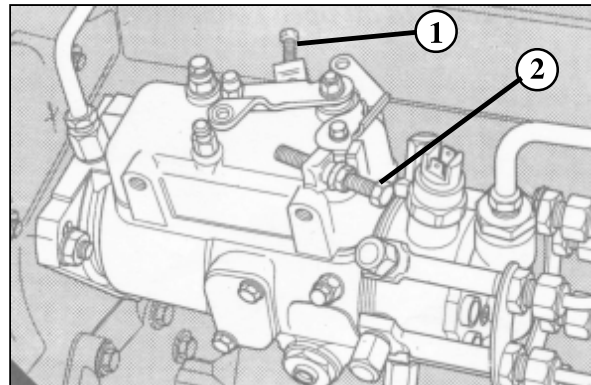

Fig. K11
2. With the engine at its normal temperature of operation, check the maximum no load speed. The maximum no load speed is indicated by the last part of the setting code for the fuel injection pump. The setting code can be found on the data plate (Fig.K12/1) on the side of the fuel pump. A typical setting code is 2643C618DM/1/2420. In this example, the maximum no load speed is 2420 rev/min. If necessary, this speed can be adjusted by the outer adjustment screw (Fig.K11/2). Release the locknut and rotate the adjustment screw counter-clockwise to increase, or clockwise to decrease, the speed. When the speed is correct, tighten the locknut and seal the screw. The person who fits the pump must ensure that the adjustment screw is suitably sealed against interference after it has been set initially.